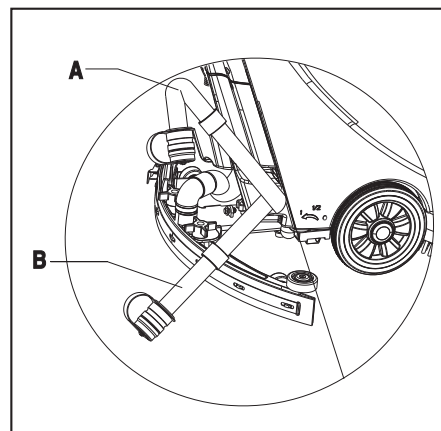

FIGURE 13
2. Raise the squeegee assembly (14).
4. Grasp the handle (2) and tilt the machine backward until the guide wheel touches the floor.
5. Remove the drain hose from the clip, bend the top end of draining hose (A, Figure 13), and then remove the drain hose cap. Lower the hose to a low level or on the ground to drain the water. Alternatively, place drain hose to a low position or on the ground to make the water outlet face downward (B, Figure 13), and then twist open the drain cap to drain the wastewater in the tank. After draining is completed, rinse the inside of recovery tank with clean water
When draining the wastewater, the drain hose must be folded or lowered to a lower position (Figure 13 A or B), and the cap removed for wastewater to drain. Do not allow the opening of the drain hose to face upward, as it could get wastewater on the operator..